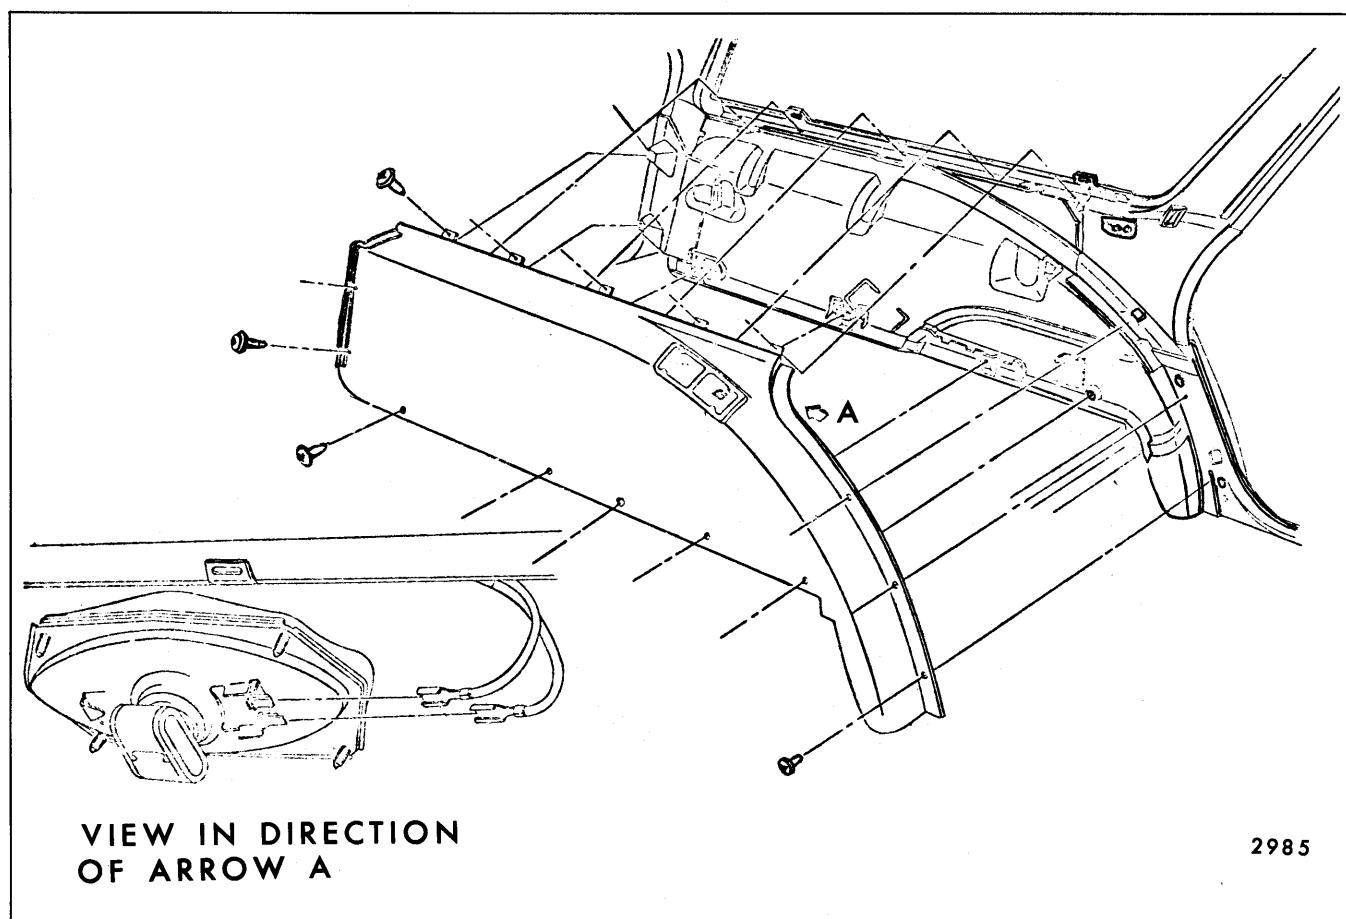

Fig. 14-33—Rear Quarter Rear Trim Panel (Left Side) - "A" Station Wagons
2. Remove screws at top, bottom, front and rear of trim panel as shown in Figure 14-33 and remove trim panel from body.
**NOTE:** On styles so equipped, disconnect rear radio speaker connectors as shown in view "A", Figure 14-33.